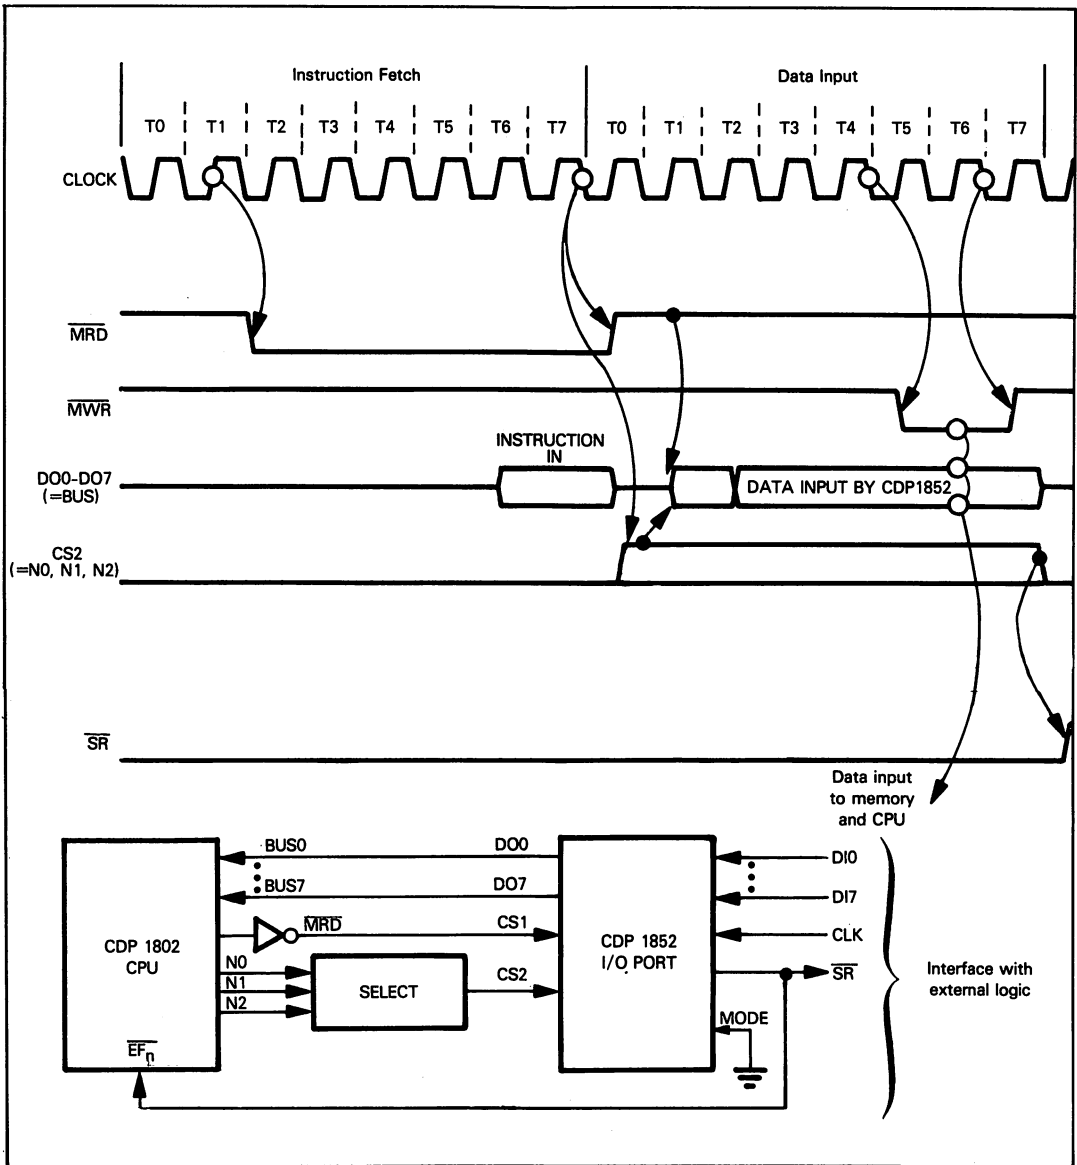

Figure 12-11. CDP1852 I/O Port in Input Mode with Programmed Input
**Figure 12-11 illustrates the CDP1852 I/O port operating in input mode with programmed input. Before examining this figure, you should be familiar with Figure 12-8 and its associated text.**
The logic in Figure 12-11 assumes that external logic uses the eight data input lines DI0-DI7 and two control lines CLK and  $\overline{SR}$ .